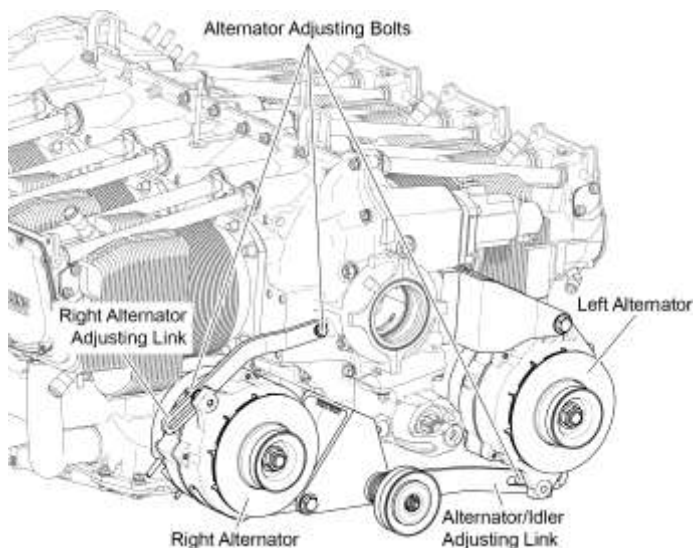

Figure 5
- (2) Loosen the alternator adjusting bolt in the alternator/idler adjusting link and left alternator (Figure 5).
- (3) Rotate the alternator on the bracket to adjust the alternator belt tension.
- (4) Torque the bolt in the alternator adjusting link in accordance with the Standard Torque Tables in the latest revision of the *Service Table of Limits - SSP-1776*.
- (5) Complete the “Alternator Belt Tension Check/Adjustment” procedure in this chapter.
- (2) Loosen the alternator adjusting bolt in the right alternator adjusting link and right alternator (Figure 5).
- (3) Loosen the alternator adjusting bolt in the right alternator adjusting link and crankcase (Figure 5).
- (4) Rotate the alternator on the bracket to adjust the alternator belt tension.
- (5) Torque the two bolts in the right alternator adjusting link in accordance with the Standard Torque Tables in the latest revision of the *Service Table of Limits - SSP-1776*.
- (6) Complete the “Alternator Belt Tension Check/Adjustment” procedure in this chapter.